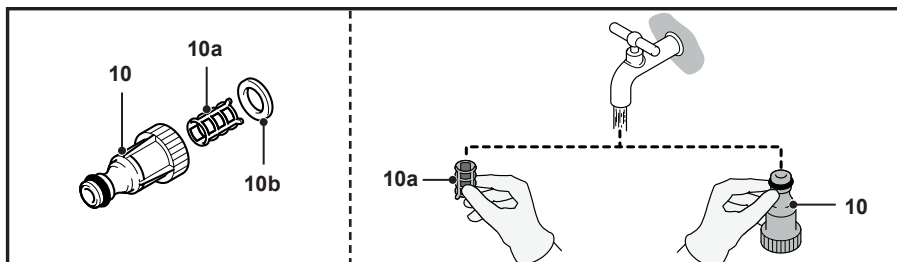

Fig. 14
1. Detach the gasket (10b) and the inlet filter (10a) from the water inlet adapter (10) (Fig. 14).
2. Rinse the inlet filter (10a) and the water inlet adapter (10) with clean water (Fig. 14).
3. After cleaning, refit the inlet filter (10a) and gasket (10b) properly in the water inlet adapter (10).